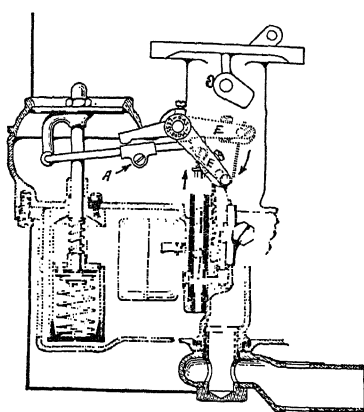
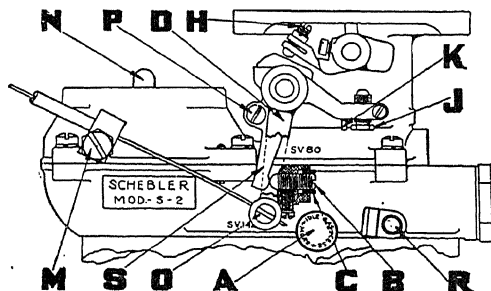

Fig. 130. Raising the Needle for Enriching the Fuel Mixture for Starting a Cold Engine on Schebler Model "S"
Fig. 131. Service Drawing of Schebler Model "S" Carburetor
usual dash-adjusting handle and wire known as the choke button is connected to the arm *E*. This is illustrated in Fig. 130, where it will be noted that *E* is shown in several positions and the connecting wire shows as both a heavy and dotted line, indicated by the arrow. When the dash adjustment is pulled out, the lever is pulled down. This rotates the lever in its shaft *E* in such a manner that *A* is thrown well over toward the air valve and the gasoline needle is raised from its seat, opening up the gasoline passage to its fullest size. Air passing through the fixed opening and the venturi will
**Carburetor Adjustments.** Having a thorough understanding of the principles involved and the working of the parts shown in the sectional views of this carburetor, the repair man is able to go about the adjustment of the carburetor in an intelligent fashion. A section of the exterior of the carburetor is illustrated in Fig. 131. There are several standard installations of the carburetor with
reference to the hook up of the choke wire. The one shown in Fig. 131 is different from the one shown in Fig. 130, but the principles involved are the same.
*Idle Adjustment.* The idle adjusting screw *A*, Fig. 131, is turned to the right for a lean mixture and to the left for a rich mixture. In order to check the idle adjustment, the motor should be warmed up thoroughly. Close the throttle and retard the spark all the way and then adjust the idle stop screw *B* so that the motor will idle not less than 5 miles per hour on the road. Then proceed to check up. Turn the idle adjusting screw *A* to the right slowly. Watch the motor fan at the same time and continue to turn it in this direction, which is leaning the mixture, until the fan falters or is not turning with a smooth constant motion. Just as soon as the
*Power Adjustment.* Extensive laboratory experimentation and road research shows that this carburetor gives the best mixture for maximum power on the hills or at high speeds when the power screw *J*, Fig. 131, is flush with the pin *K*. In high altitudes more power may be obtained by leaning up on the power mixture, that is, turn *J* to the left or counterclockwise from three to five turns. The higher the altitude, the greater the number of turns suggested.